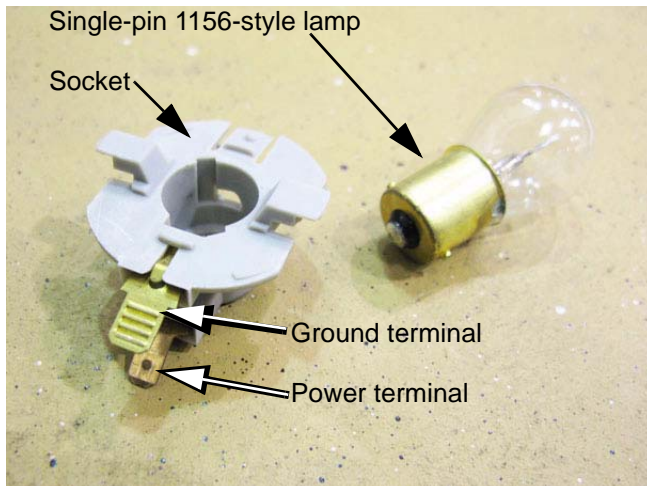

Figure 4.7
2. Rotate the bulb to release it from the socket. See Figure 4.7.